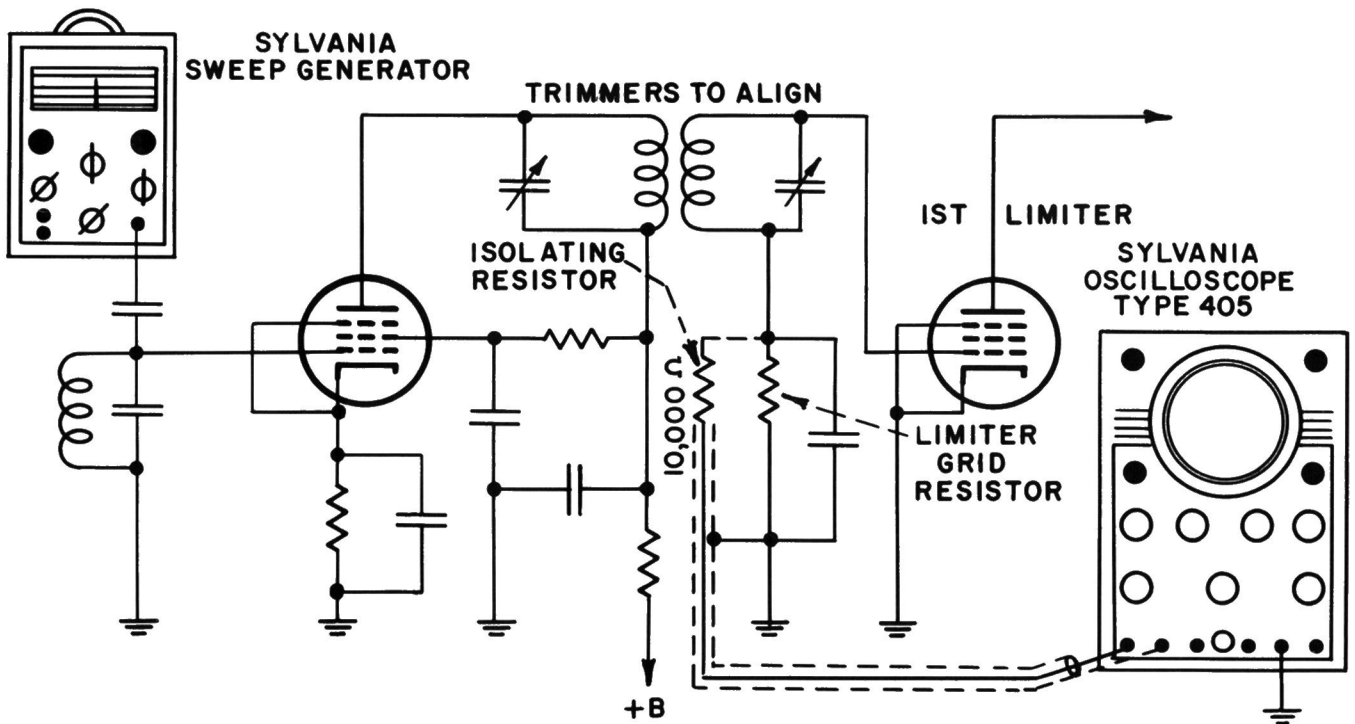

Fig. 14—Oscilloscope connections for i-f amplifier alignment in an f-m receiver.
- D. **Discriminator-Type Receiver.** The IF circuits are aligned by connecting the VERT. IN. terminal to the high side of the first limiter grid resistor through a short shielded lead as shown in Fig. 14. An isolating resistor of approximately 100,000 ohms is sometimes used as the connection to the circuit. The output of a sweep signal generator is connected to the grid of the last IF tube. The frequency of the signal is the same as the intermediate frequency of the receiver and the frequency deviation is set to approximately plus and minus 150 kc. for a total sweep of 300 kc. The receiver manufacturer's service notes should be consulted for the exact value of intermediate frequency. The trimmers of the last IF stage should be adjusted to obtain a pattern similar to that of Fig. 13 (D). The bandwidth of the IF amplifier is somewhat broader than it would be in an AM receiver and, therefore, the sharp curve of Fig. 13 (A) will not be satisfactory.